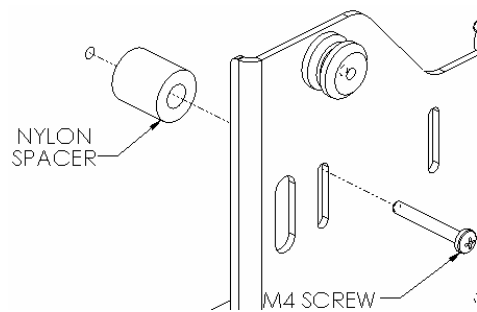
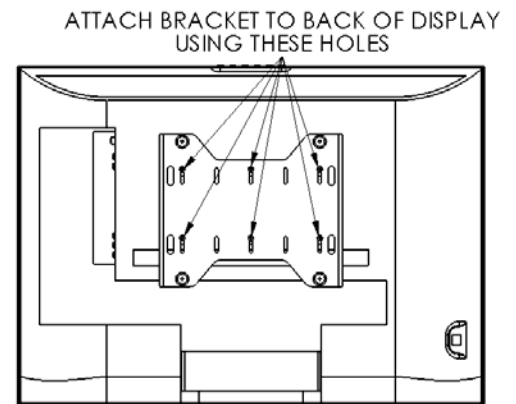

Figure 4
Figure 5
3. Attach bracket to back of display using the M4 screws (see Figure 4 & Figure 5). The vertical slots of bracket can be used for any height adjustment that may be needed. Do not over tighten screws.